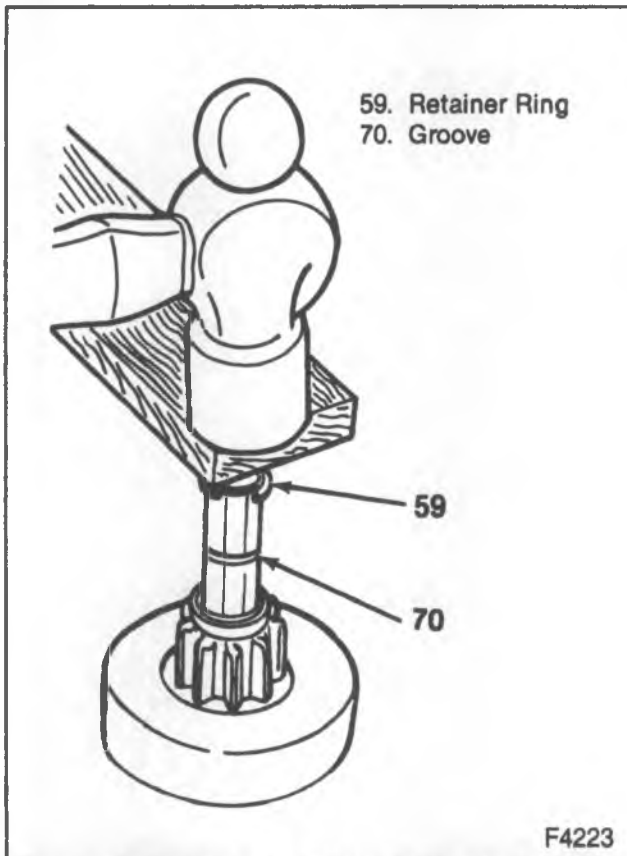

Figure 16—Forcing the Retainer Ring on the Shaft
4. Stop collar (39) on the shaft with the cupped end away from the pinion gear.
5. Retainer ring (37) on the shaft (figure 16).